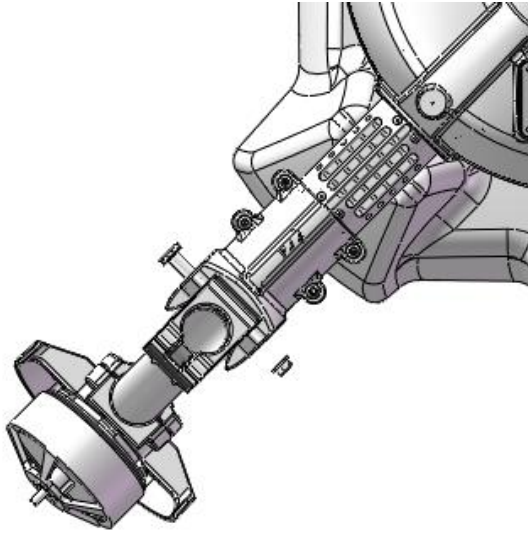

Figure 2-2
- 4) M5 nut should be tightened from the other side,see figure 2-2.